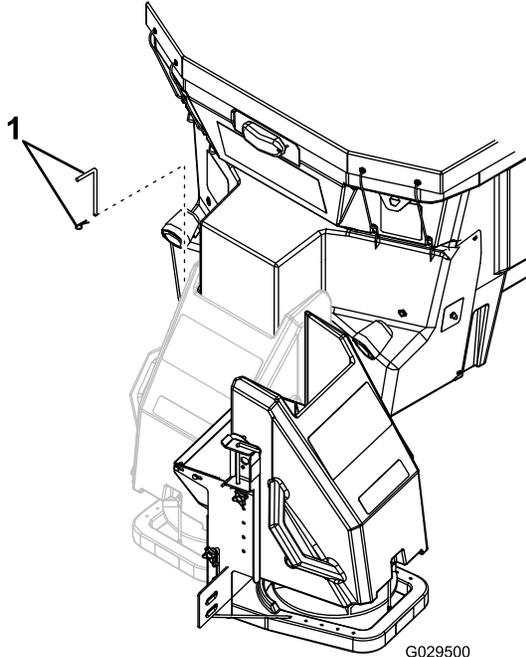

Figure 20
3. Remove the left latch and cotter pin from the spinner assembly (Figure 20).
4. Swing the spinner assembly free from the hopper opening (Figure 20).